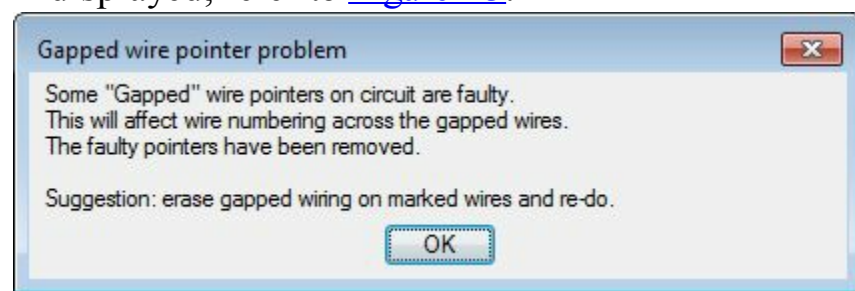

Figure-23. Gapped wire pointer problem dialog box
- Note that if you have gaps in the circuit then the **Gapped wire pointer problem** dialog box will be displayed; refer to Figure-23.